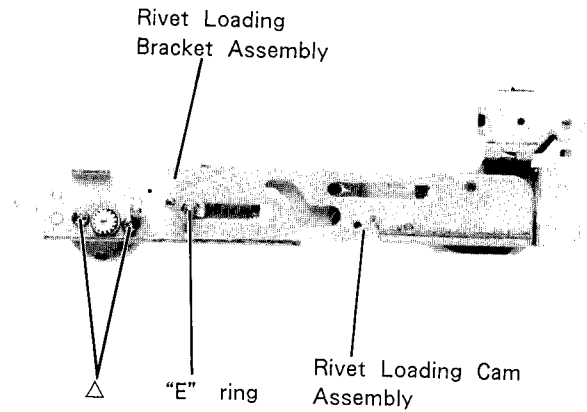

Figure 20
- (1) After removing the Rivet Loading Cam Assembly, remove the two screws marked with "△" as shown in Figure 20.